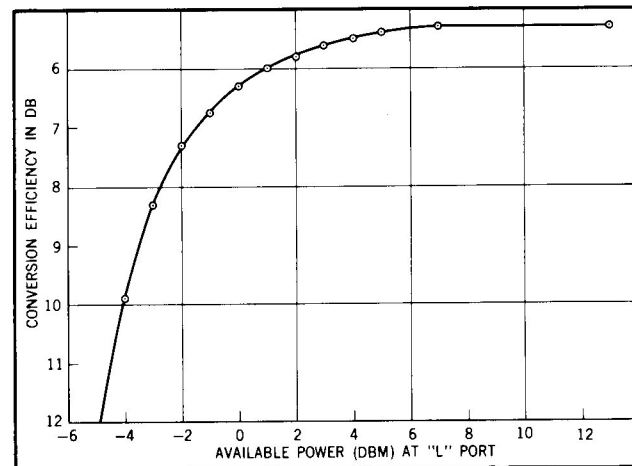

Figure 3. Conversion Efficiency
e. Conversion efficiency is the ratio of power in one output sideband to the power available at R. Figure 3 represents the conversion efficiency as a function of the available power at L, of a typical Model 10534A/B/C Mixer used as a mixer (Paragraph 14) or phase detector (Paragraph 15). Input signals at L and R are 1 MHz, with the signal level at R maintained at 10 mv. Note that the conversion efficiency decreases sharply as power available at L is reduced below 0 dBm.